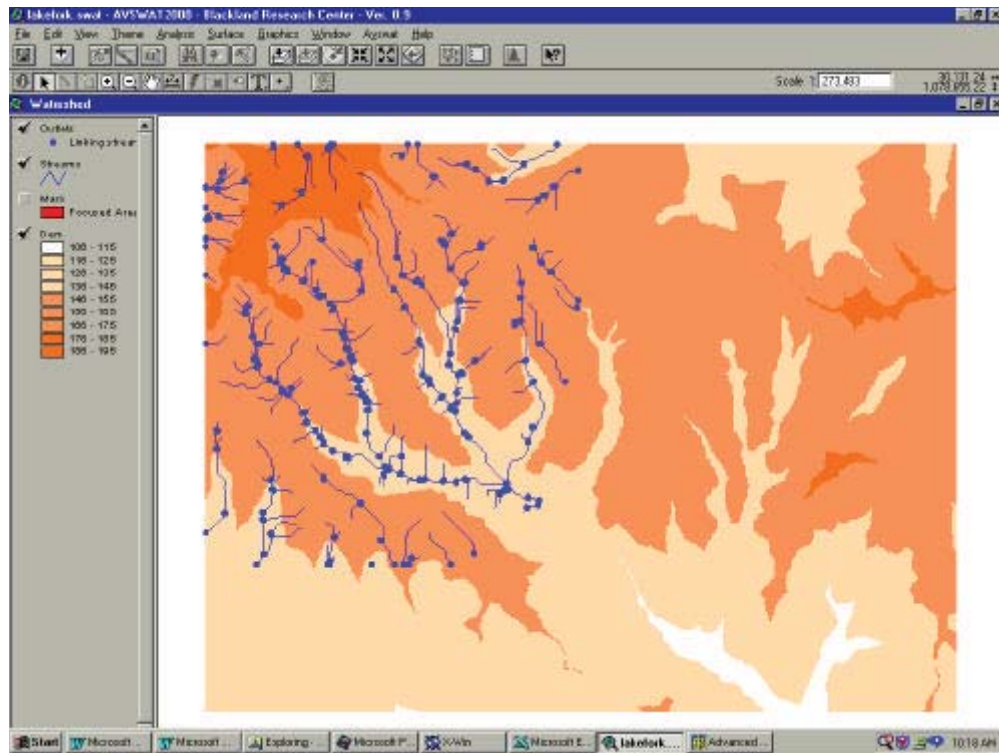
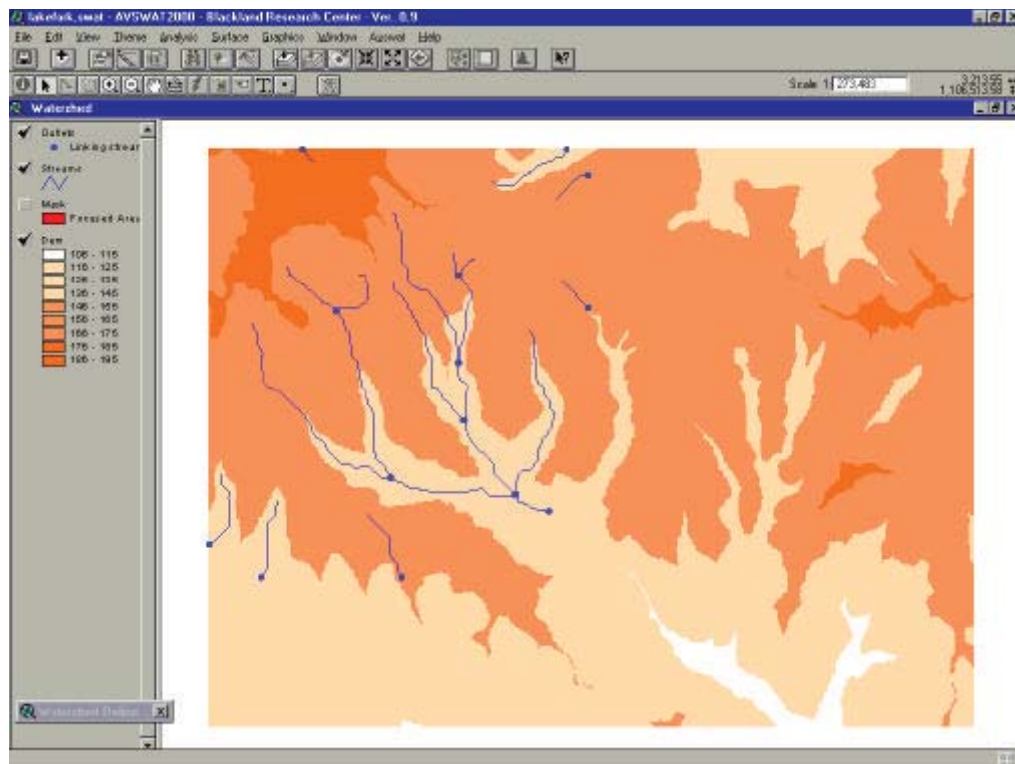

Figure 15.19
Figure 15.20
14. Once the elevation map has been preprocessed, the threshold area used to define the origin of a stream needs to be specified. The smaller the number, the more detailed the stream network generated by the interface. Figure 15.19 shows the stream network generated with the threshold set to 100 ha, while Figure 15.20 shows the stream network generated with the threshold set to 1000 ha.
- The stream network will be displayed upon completion of the calculations (Figure 15.20). Subbasin outlets defined by the junction of two streams are denoted on the network by blue dots.